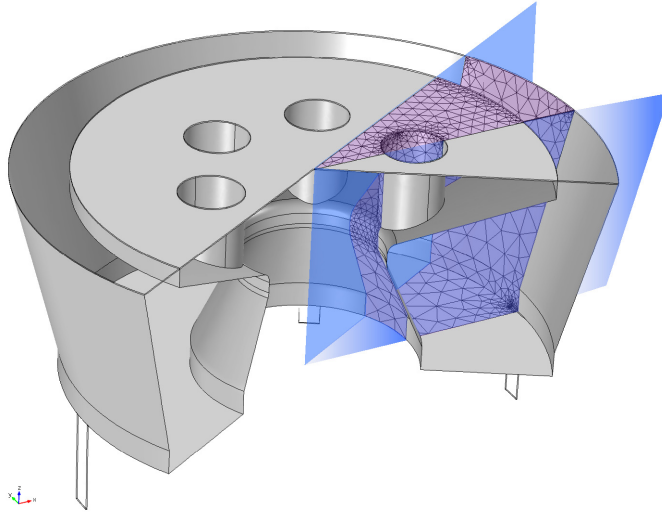
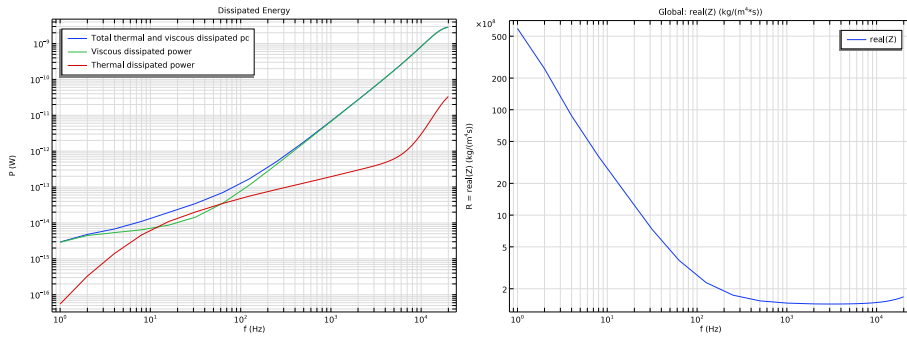

Figure 3: Geometry of the BK 4134 microphone. The computational mesh is reduced to 1/12 of the geometry using symmetries.
Figure 7: (left) Total, thermal, and viscous dissipated power, and (right) equivalent acoustic resistance computed directly and through the dissipated power.
- Using simple symmetries, only the lowest order rotational periodic mode of the diaphragm is computed and modeled. In this case 1/12 of the microphone, see Figure 3.
The geometry of the Brüel and Kjær 4134 microphone is shown in Figure 3. The computational mesh is also shown as a 1/12 slice of the geometry. Using the symmetries of the model, the computational domain is reduced. Because of this symmetric construction the vent has been split into 6 slices (each divided into two with the symmetry) with the requirement that the total acoustic impedance of the six slices equals the original single hole.
The dissipated total, thermal, and viscous heat inside the microphone cavity are depicted in Figure 7 (left). The computed equivalent acoustic resistance R used for the noise computation is depicted in Figure 7 (right). The resistance is computed through both Equation 5 and Equation 6. The values of the resistance are consistent with the results from Ref. 8 (see Fig. 3 in the reference).